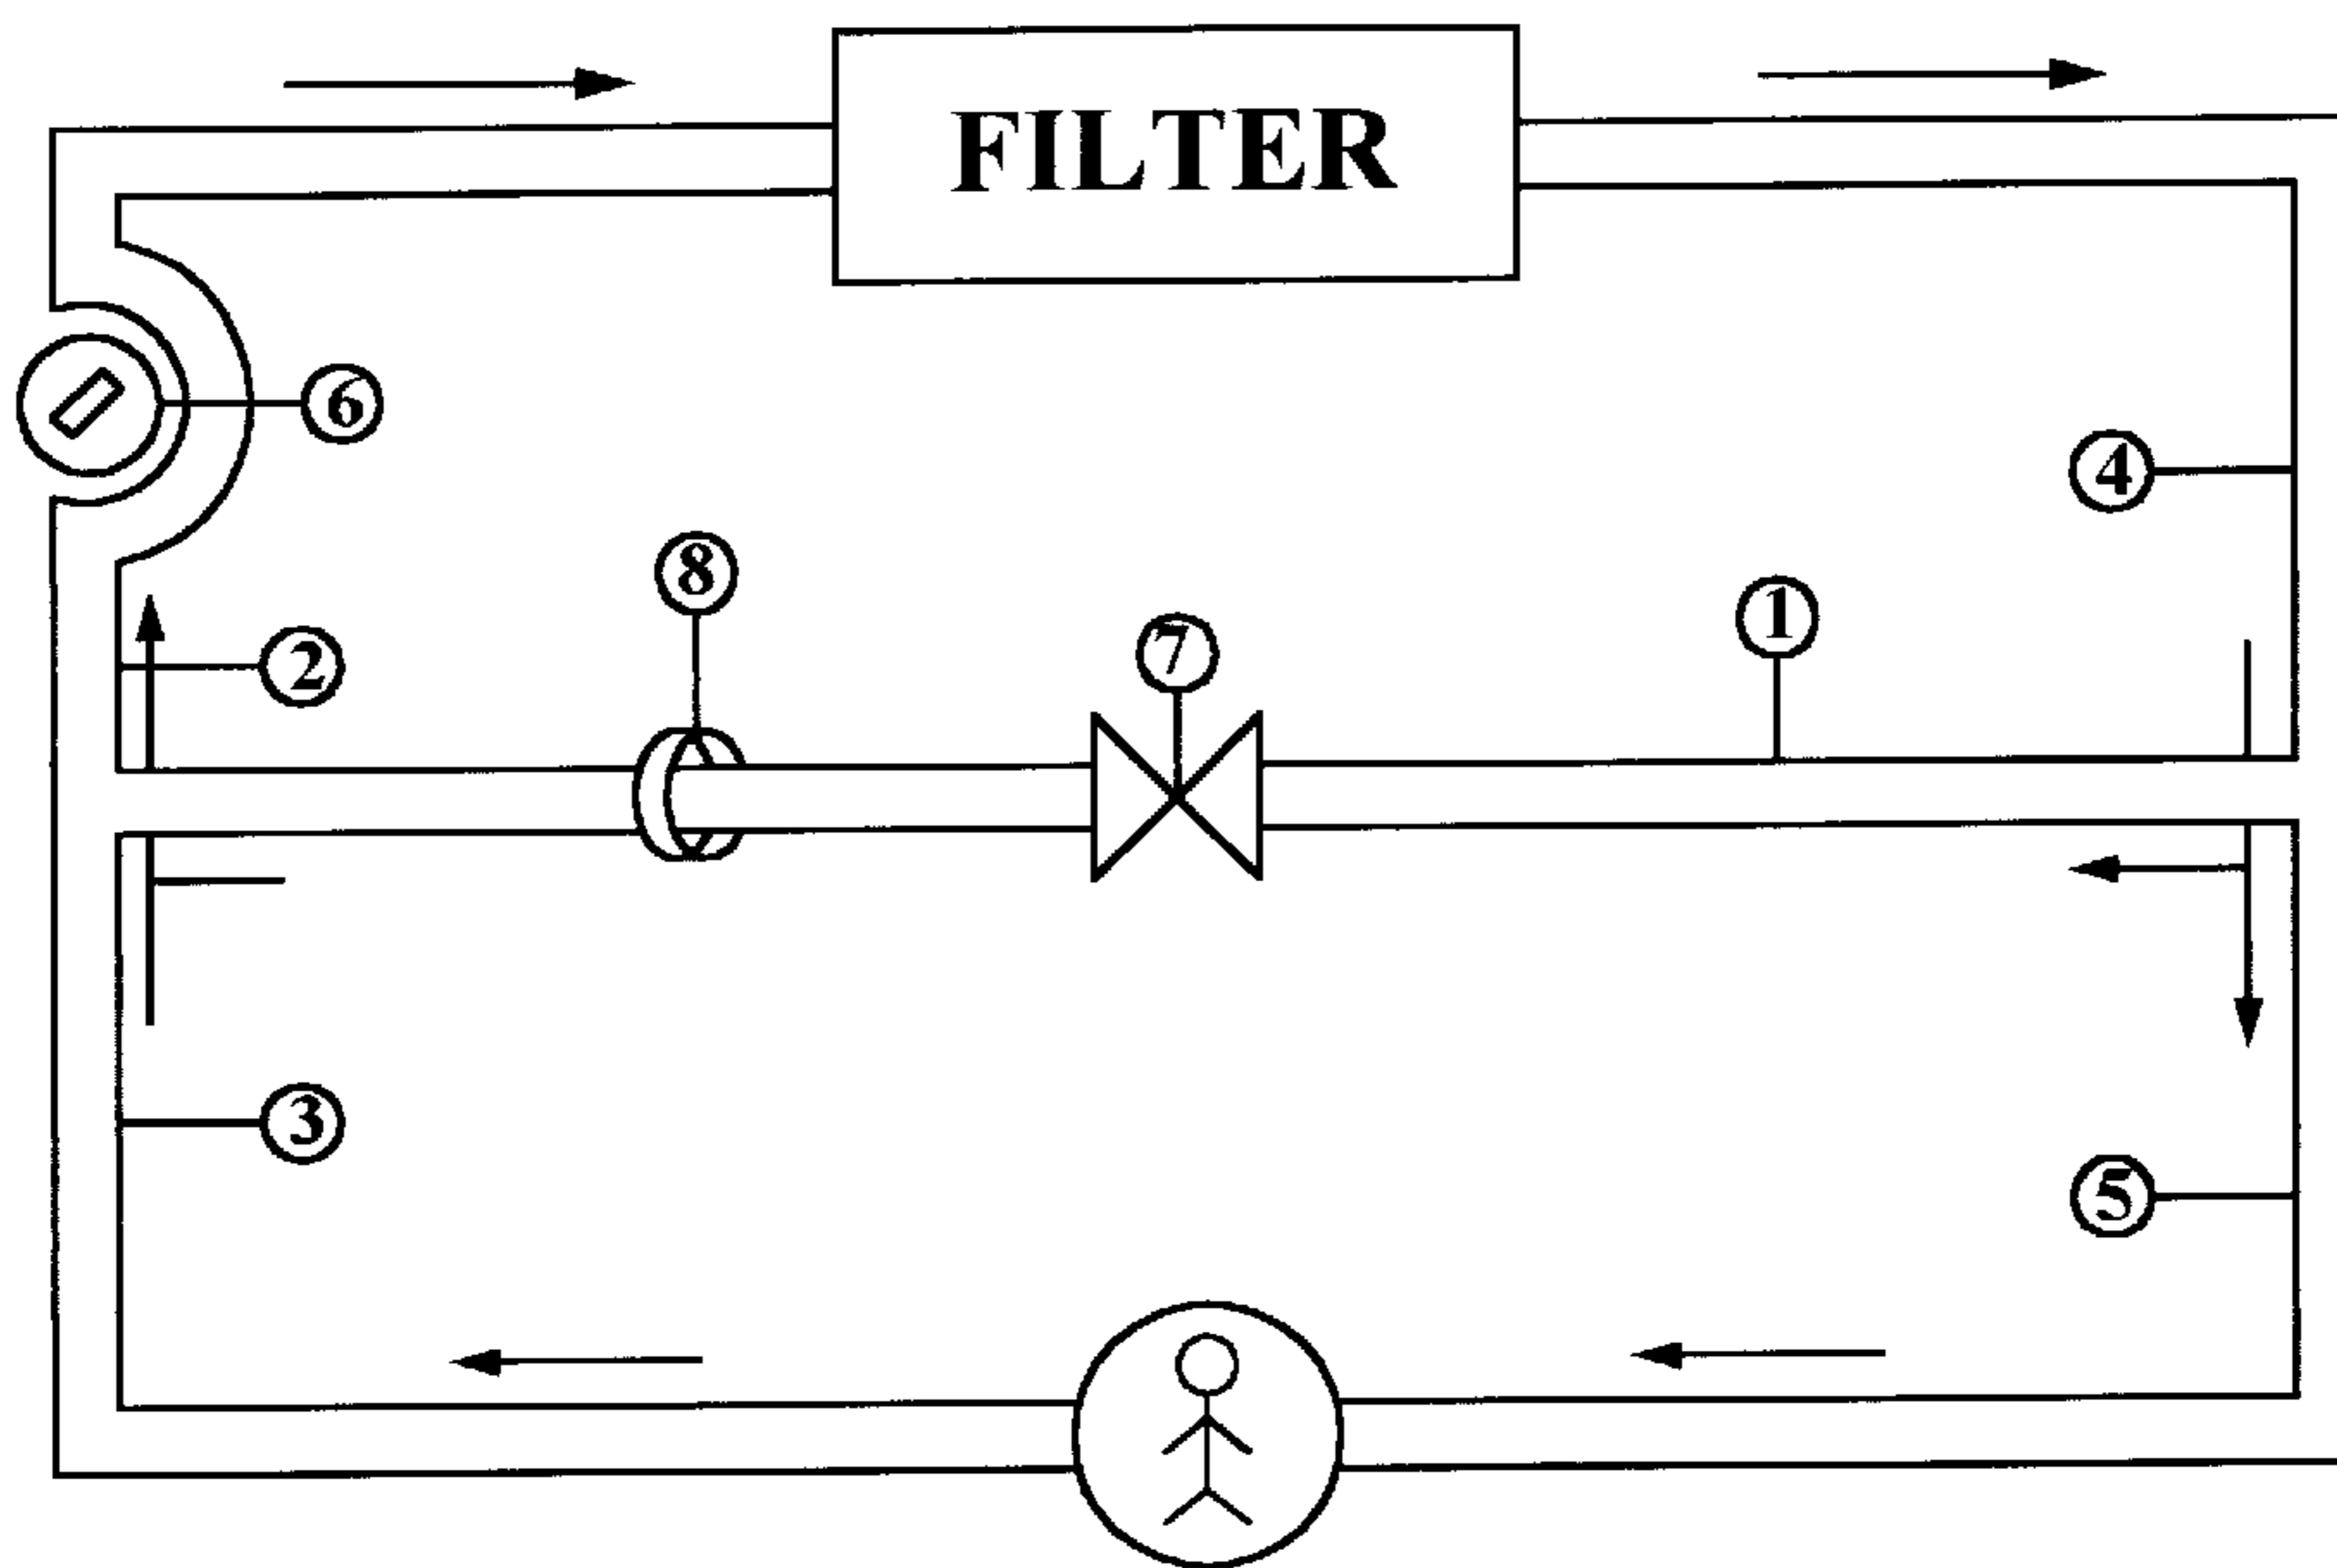

FIGURE 4
FIG. 4; The pressure controlled accelerated hemodialysis circuit; the recirculation segment (1), the filter segment of the arterial line (2), the patient segment of the arterial line (3),the filter segment of the venous line (4) & the patient segment of the venous line (5), the blood pump (6) & the valve(7) the recirculation segment clamp (8).